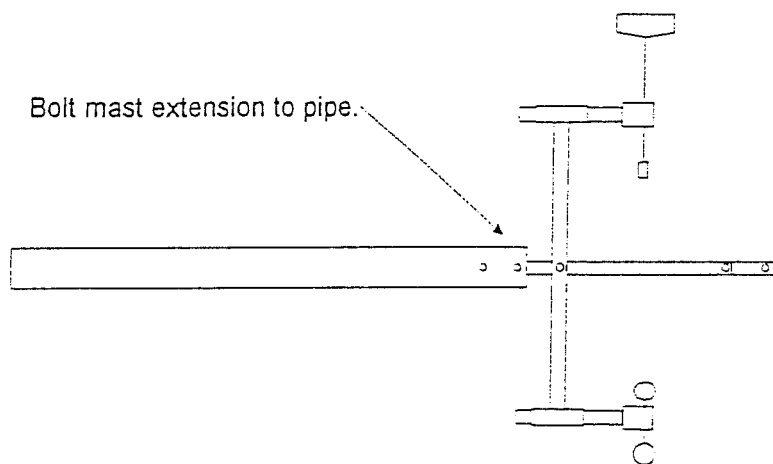

Figure 5-4
3. If you do not require a telemetry antenna, the recommended assembly configuration is shown in Figure 5-4. This configuration allows the mast extension to accept, or act as, a lightning rod.